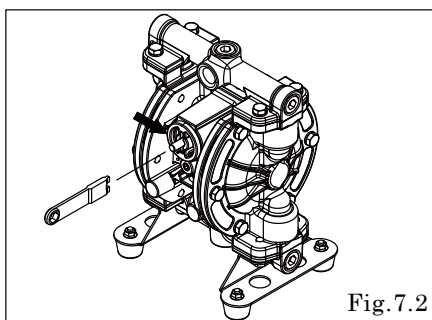

Fig. 7.2
- Remove the cap using the cap A, cap B and disk remover. (special tool: Part No. 771132). [Fig. 7.2]